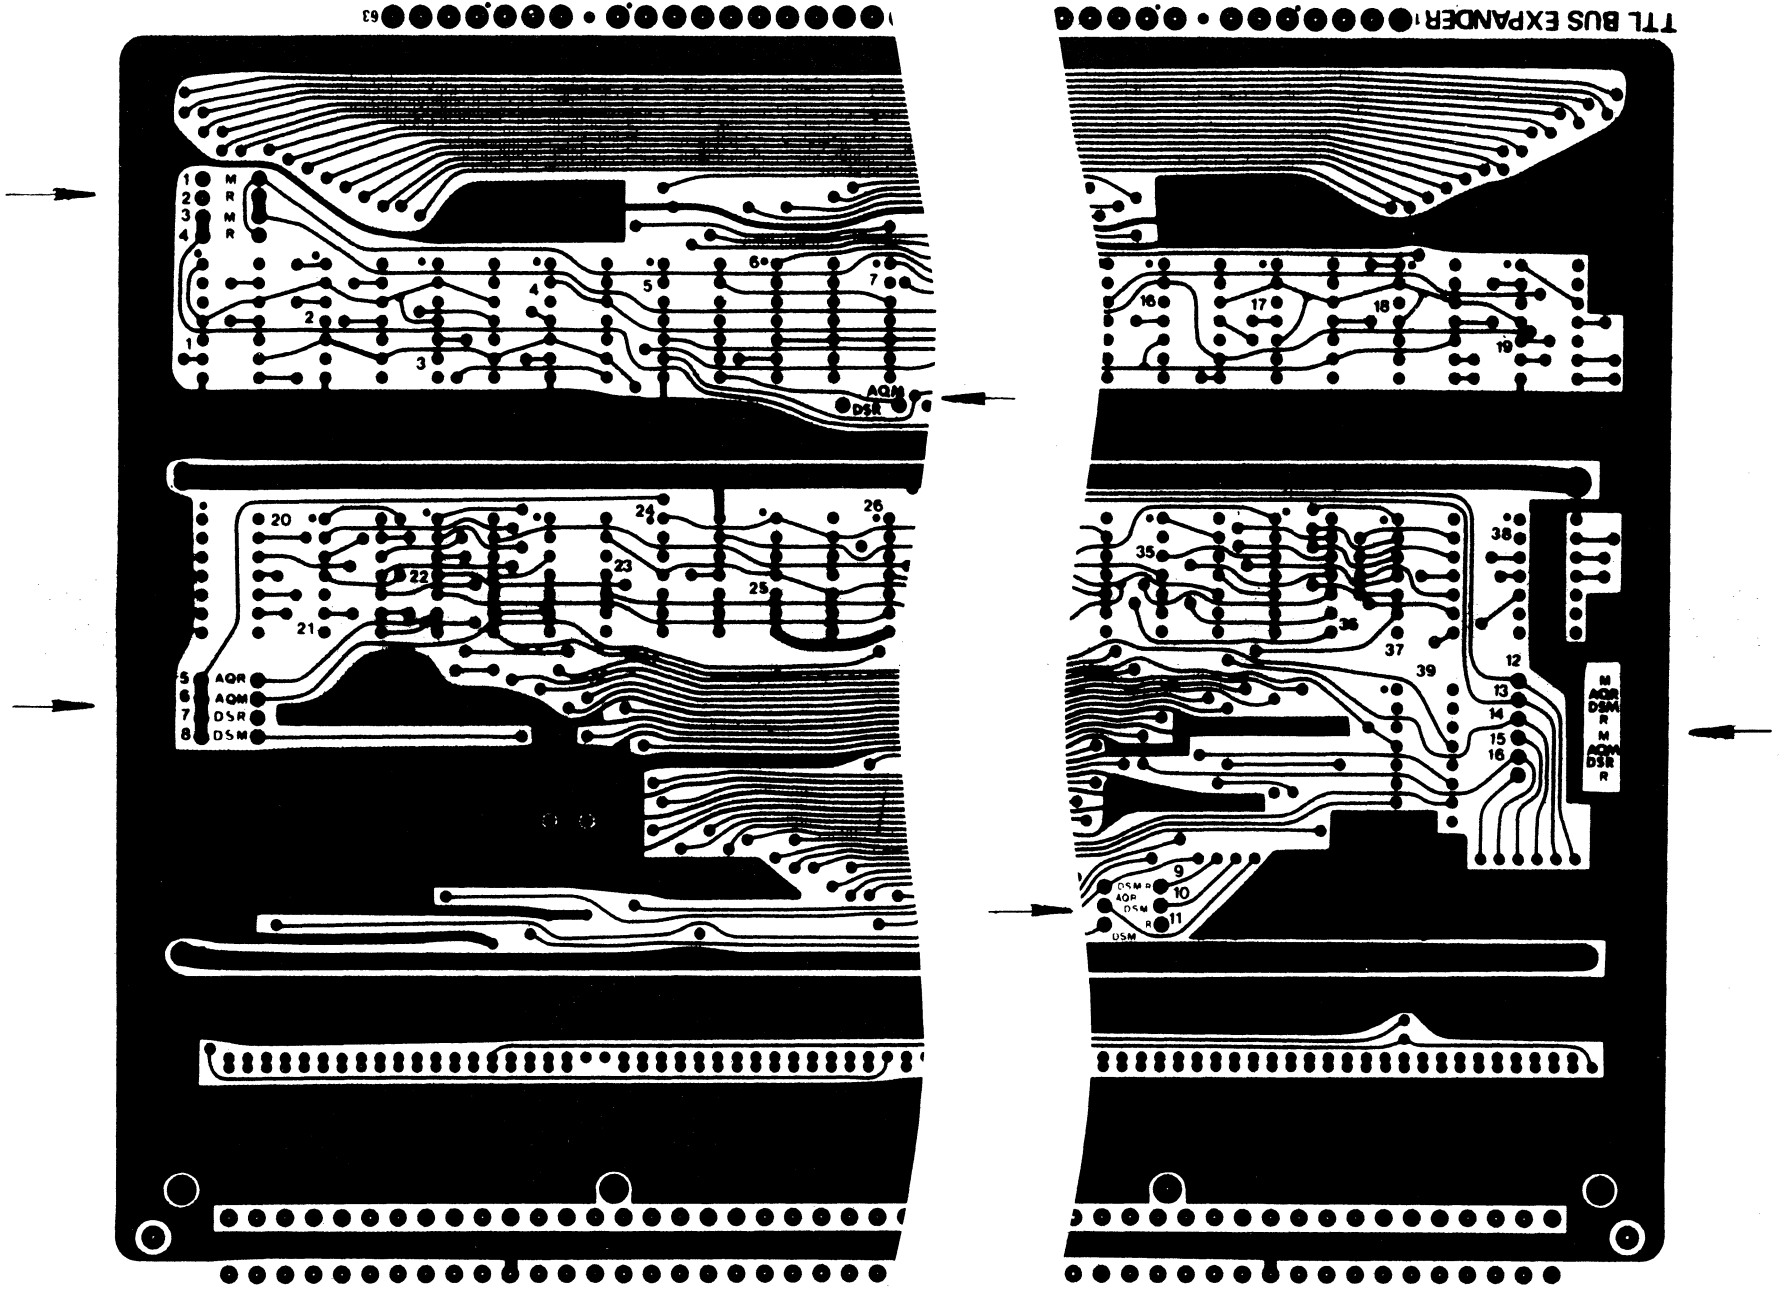

Figure 3-2. Locations For Jumper Plug Placement
3. Place the internal select jumpers in the positions on each PWA's as described below and shown in Figure 3-2:
The AT310-A TTL A/Q-DSA Bus Expander is comprized of two standard 50-PAK PWA's and a single interconnecting flat cable. Both PWA's use the sampe type of board, but have different components. The main PWA is installed in the AB107/AB108 enclosure with its jumper plugs placed as described in Section 3, while the remote PWA (with jumper plugs set) is placed in either the BT148-A expansion enclosure or another suitable enclosure. The function of each expander is set by placing or omitting jumper plugs from the positions shown in Figure 3-2. Access in and out of the enclosures is made by leading the flat cable through the slots in the case on the backside of the enclosures.